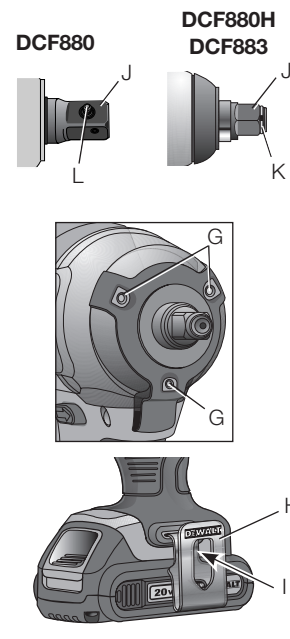

FIG. 3
Charging Procedure (Fig. 3)
2. Insert the battery pack (F) into the charger, as shown in Figure 3, making sure the pack is fully seated in charger. The red (charging) light will blink continuously, indicating that the charging process has started.